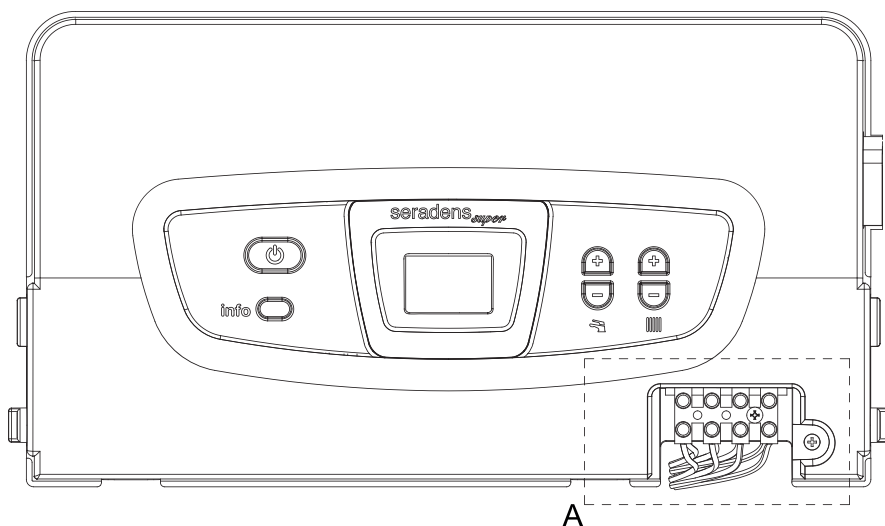

Figure 18. Electrical connections
- c. Slacken the screws and remove the protective cover positioned right-bottom part of the plastic panel (see detail A in Figure 18).
- d. With the cover removed, connect remote control, room thermostat and outside sensor wires as shown in Figure 18 detail A.